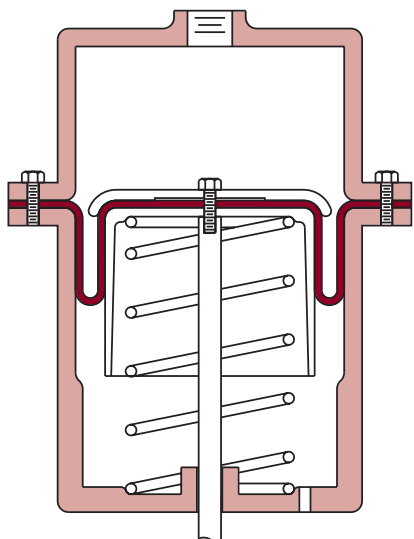

Fig. 5: Neutral Plane Position
- Neutral Plane Position (Fig. 5) – The stroke capability of a diaphragm is usually calculated or specified using “neutral position” (neutral plane) as a basis. It is defined as that point in the stroke where the piston head is in the same plane as the clamping flange of the cylinder.